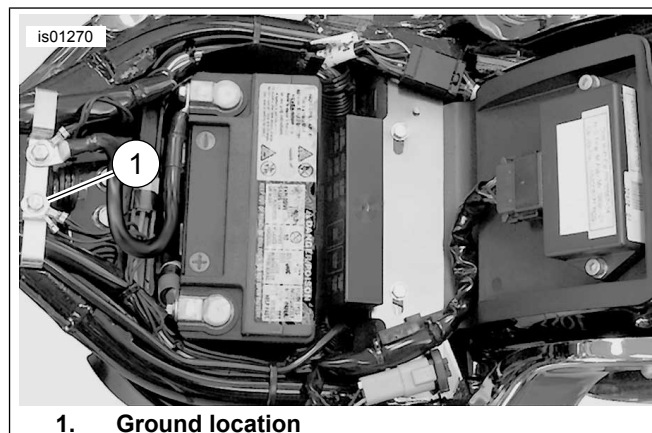
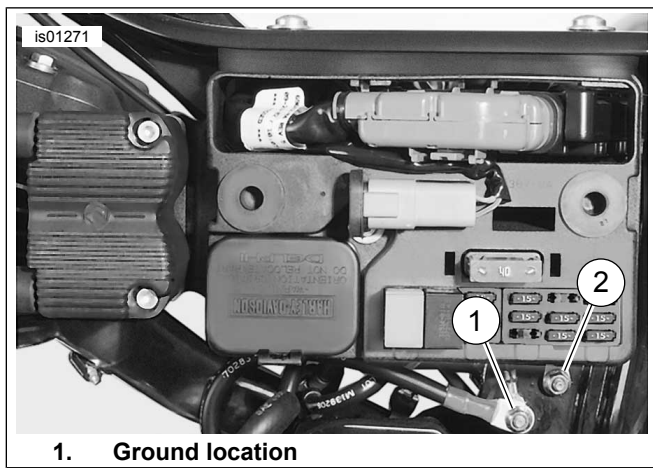
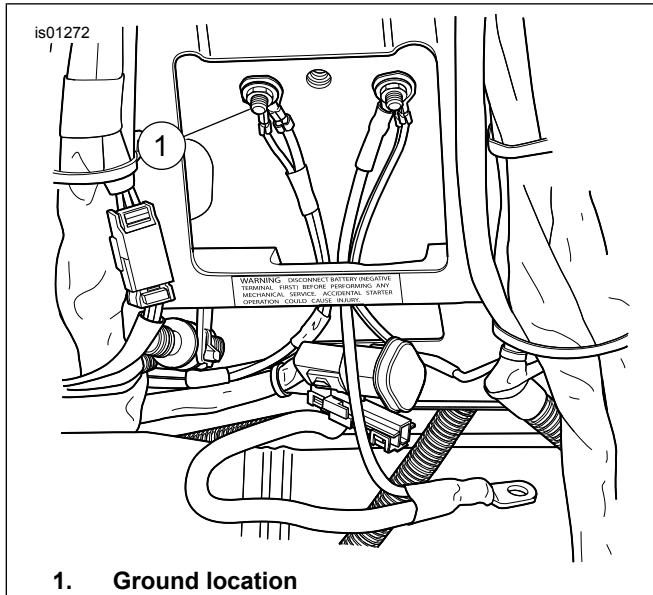

Figure 7. 2004 Softail Ground
Figure 8. 2004 and Later Dyna Ground
Figure 9. 2004 FLHR Ground
2. Locate the ground terminal and route the black ground lead to the ground location for the model motorcycle. Refer to Service Manual for instructions. *2004-later Softail:* See Figure 7. On the frame strap (1) under the seat directly in front of the battery. *2000-2003 Softail:* Top of the frame under the seat toward the front. *2004-later Dyna:* See Figure 8. At either of the rear ground studs (1,2) under the fuse block. *2000-2003 Dyna:* On top of the frame under the seat toward the tank. *2004-later FLHR/I:* See Figure 9. Under seat directly in front of battery (1). *2000-2003 FLHR/I:* In the well underneath the seat under the circuit breaker. *2000-2003 XL:* The wire harness ground screws can be in several locations including under the seat at the junction of the frame backbone and the extensions for the shock mounts, on the left side of the frame under the tank, or on the left side of frame near the swing arm. *2004-later XL:* On the backside of the primary case at the rear of the engine.
1. *2004 models except XL:* Access fuse block and remove fuse block cover. *2007-later models:* Fuse block cavity marked P&A IGN is located on right side of vehicle. See Figure 7. The fuse block connector terminal uses the "spring tab" type connector.